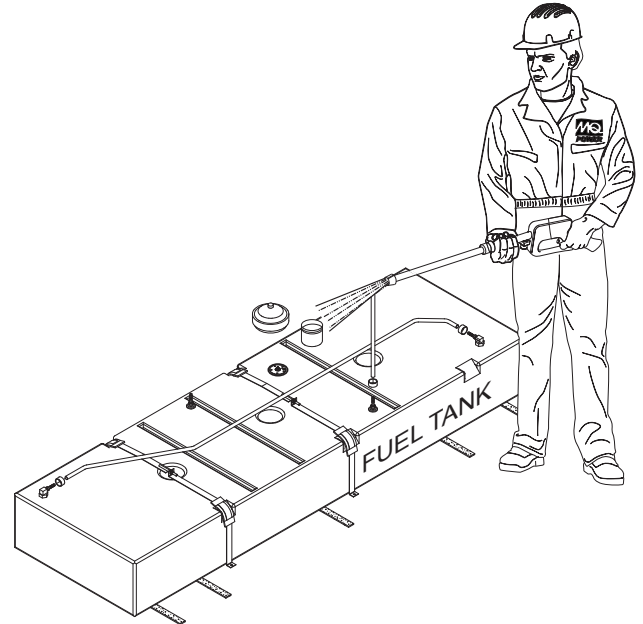

**Figure 65. Fuel Water Separator**
1. Using a **filter wrench**, remove the **fuel water separator cartridge** (Figure 65) from the **cartridge head**.